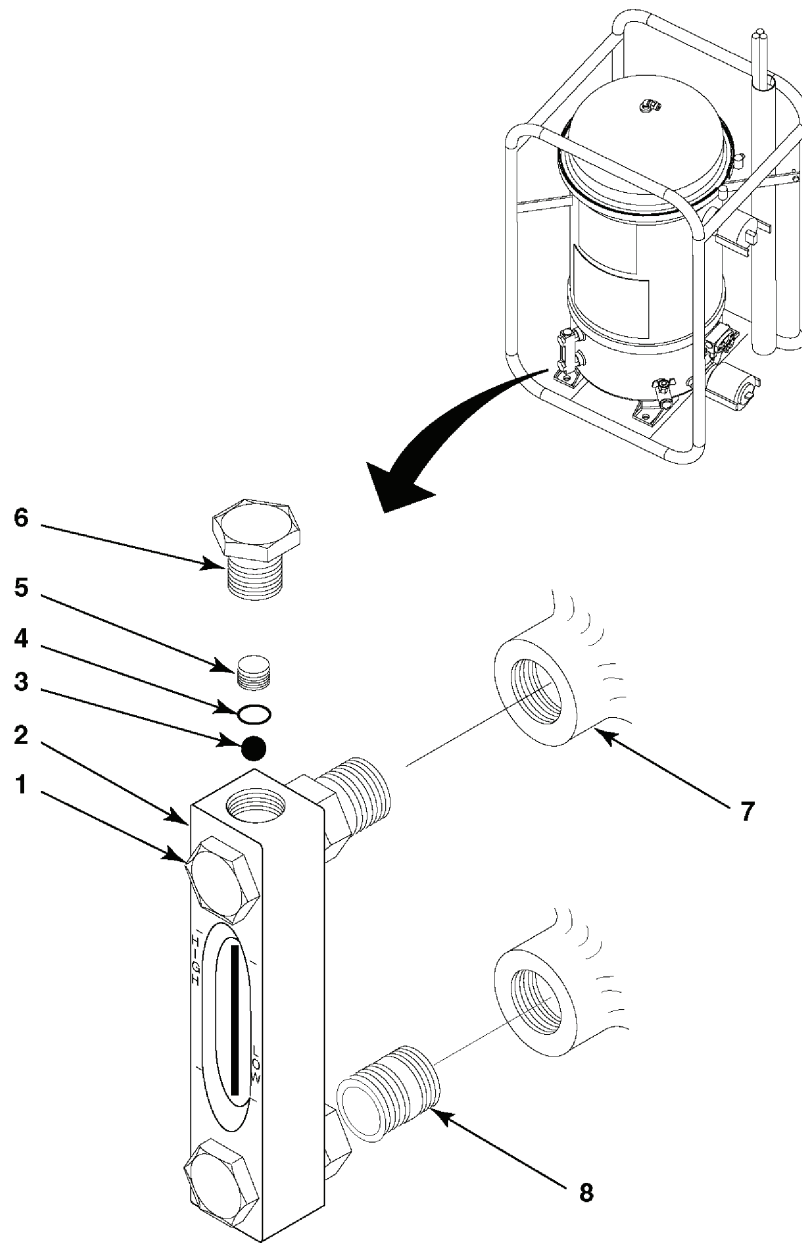

Figure 1. Sight Gauge Replacement
Sight gauge, 50-GPM (Item 21, Figure 1, WP0019)
1. Unscrew top and bottom outer bolts (figure 1, 1) to remove sight gauge (2) from bushings (8).
2. Remove bushings (8) from vessel ports (7).